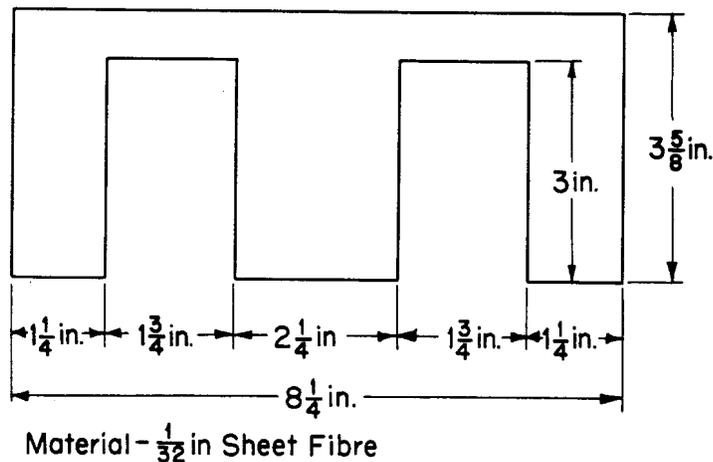

Fig. 1
3.02 Contact insulator, fiber, used to insulate contacts of MC relay in control cabinet. See Fig. 1.